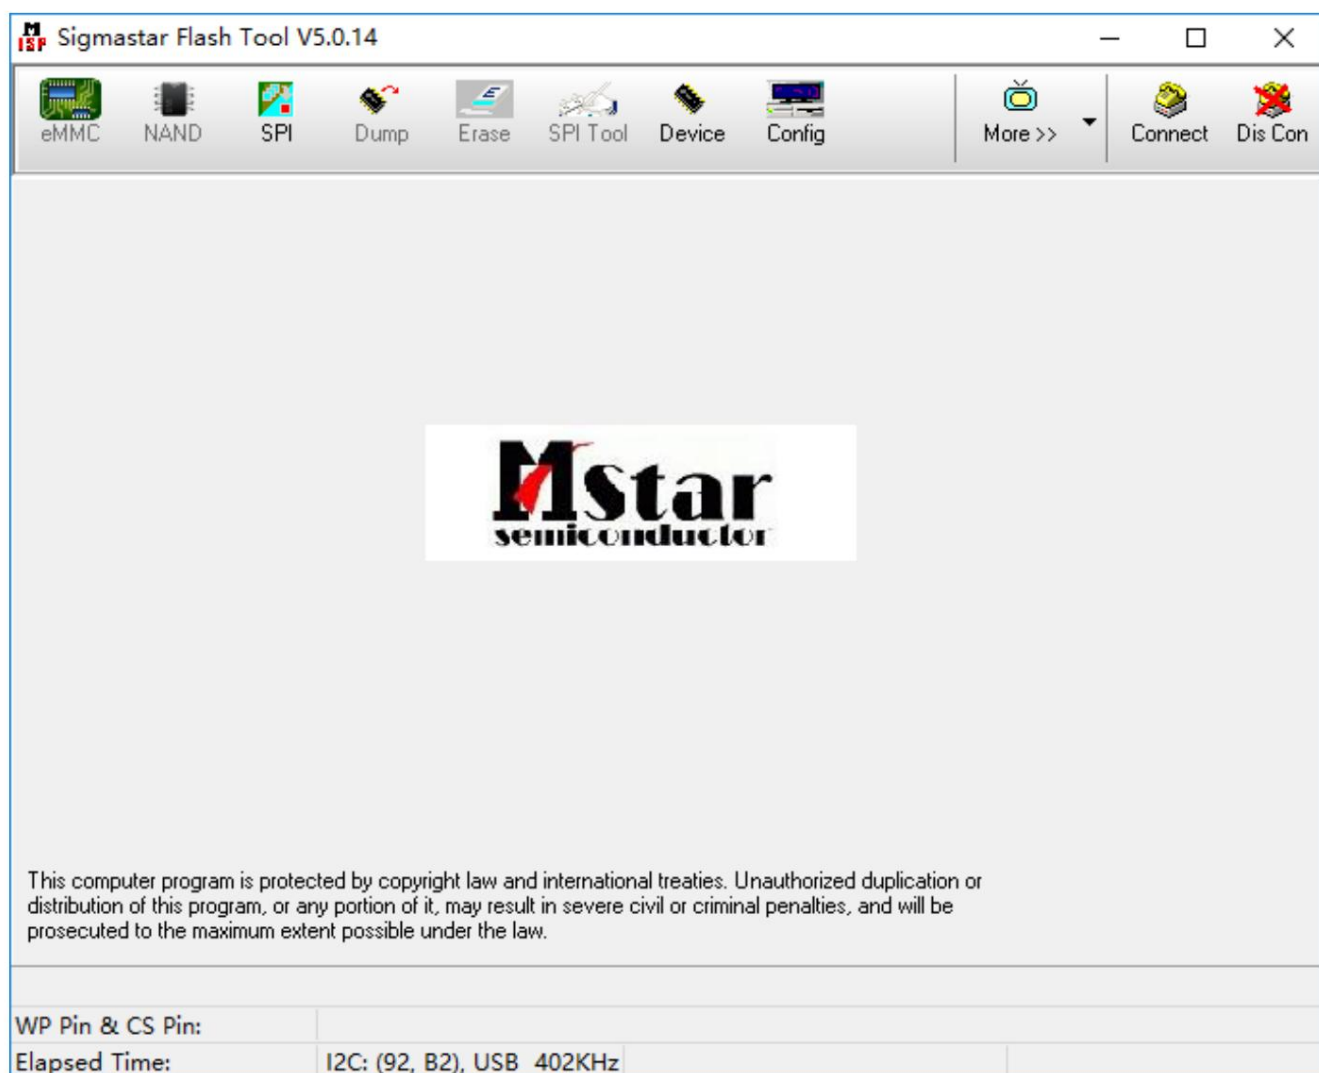

Figure 13
Step 2: Open the Flash Tool tool, as shown in Figure 13 below;